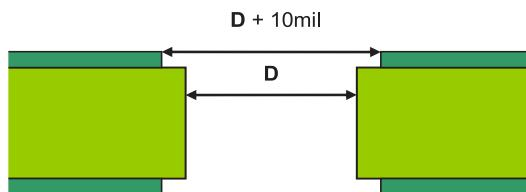

Figure 20: Solder mask opening for non-plated mechanical holes.
- [37] For non-plated holes, the solder mask opening on both sides of the board should be $D + 10\text{mil}$, concentric about the hole, where D is the diameter of the hole. As shown in Figure 20.